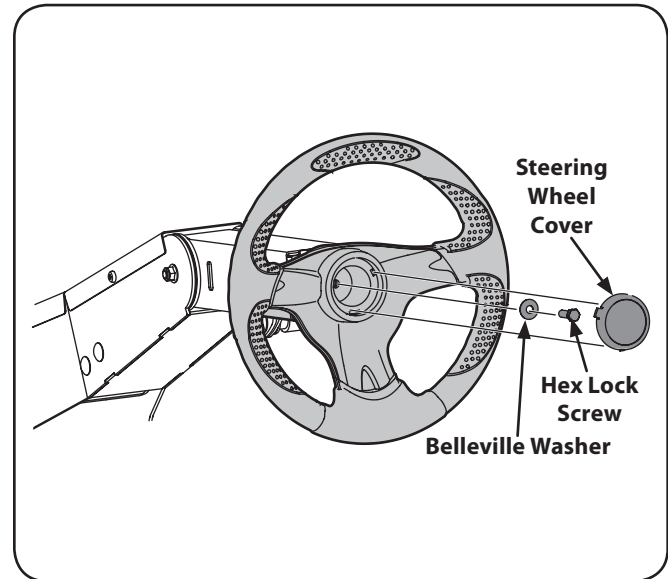

Figure 3-8
3. Place the belleville washer over the steering wheel and secure with the hex lock screw. See Figure 3-8.